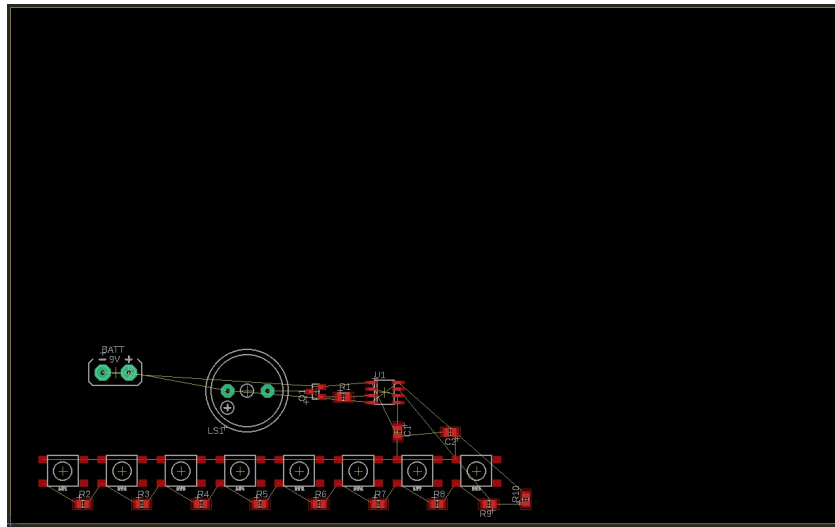

Figure 3 - Placed but Unrouted Board
- d. Once you have placed all the parts, your board might look similar to the one in Figure 3.